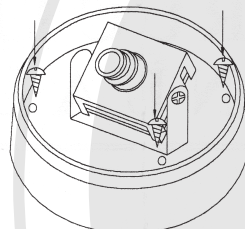

Figure 1
STEP 3: Secure the camera in the desired ceiling position with the four fixing screws (as shown in Figure 1).